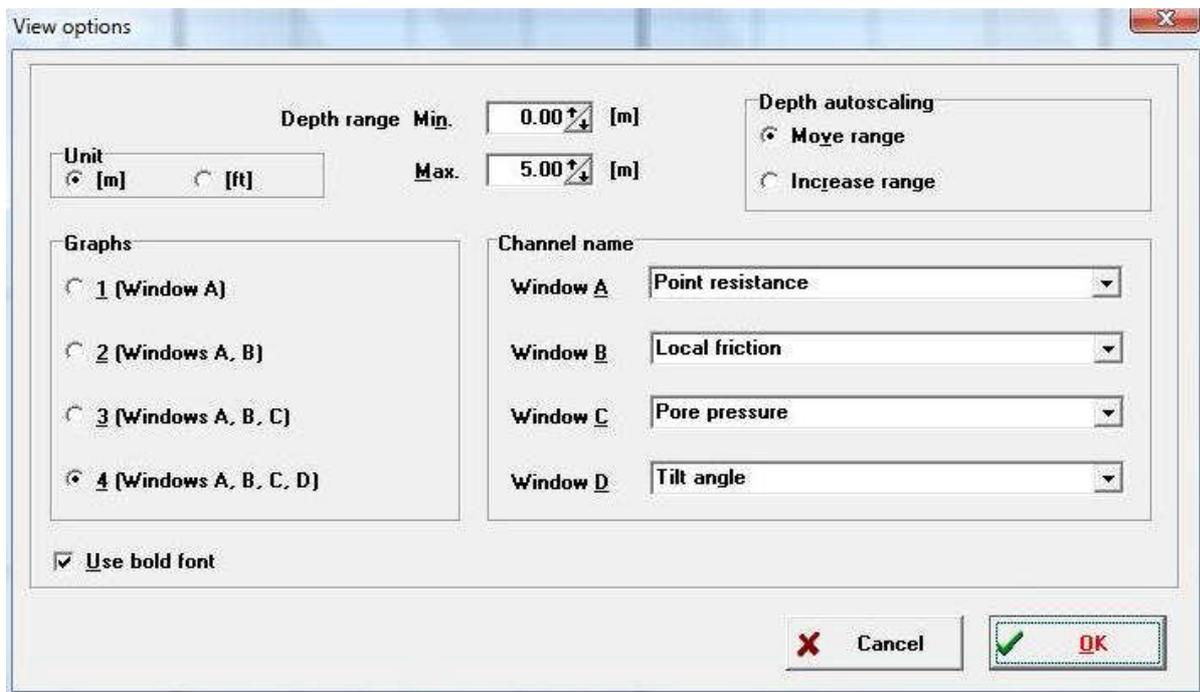

Fig. 3-5: Panel View, Number and type of graphs displayed; Depth range, Autoscaling, Depth unit in meters or feet, Press F5
3. Set view parameters from selected channels from menu Options – **View** – F5 (Fig. 3-5). One to four channels can be displayed simultaneously. The parameters are: